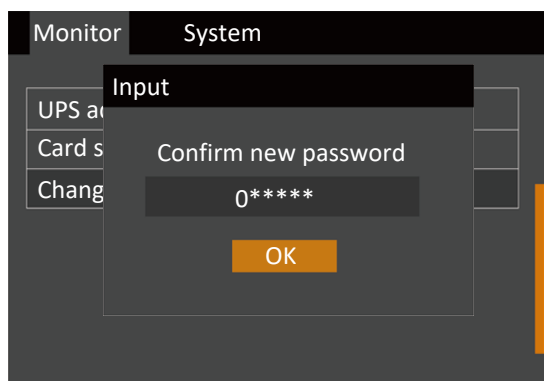

Figure 5-26 Confirming New Password
5. After entering the new password, press the key to confirm it; at this point the system requests the user to confirm the new password by entering it again, see Figure 5-26.